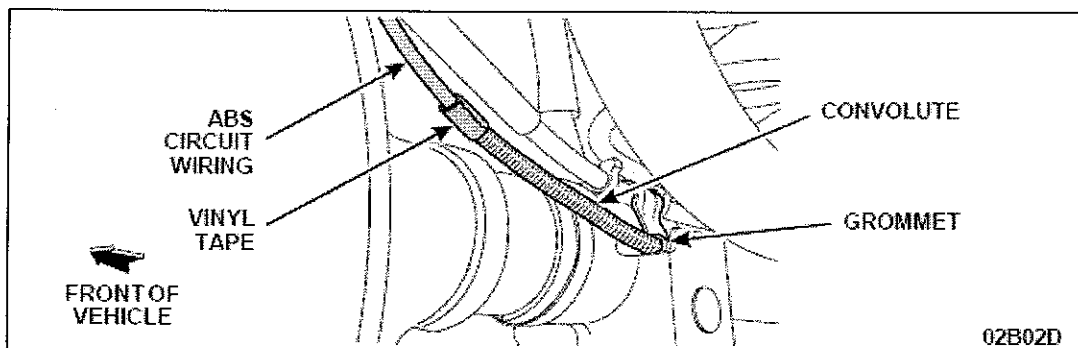

FIGURE 4
- On 1992 to 1997 model year vehicles, install the supplied convolute over the ABS circuit wiring leading to each rear wheel. Position the convolute so it is up against the grommet as shown in the illustration. Secure with vinyl tape. See Figure 4.